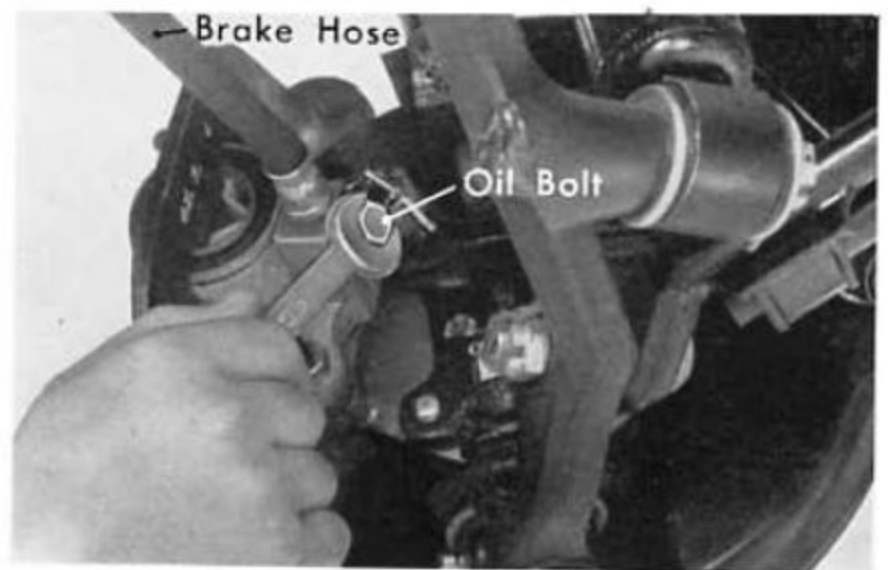

Fig. 12D-4
3. Remove the mounting bolts and separate the caliper assembly from the mounting bracket (Fig. 12D-5).